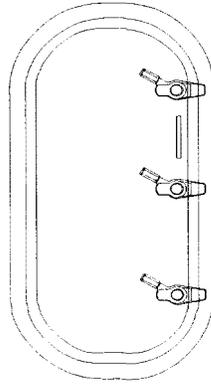

Figure 1-14. Watertight Individually Dogged Ballistic Door
- m. Watertight Individually Dogged Ballistic Doors. (See figure 1-14 and figure 7-5.) These 3-dog doors are installed in ballistic armored bulkheads, and are the same thickness and material as the plating in which they are fitted. These doors are provided where rapid access/egress is not required.